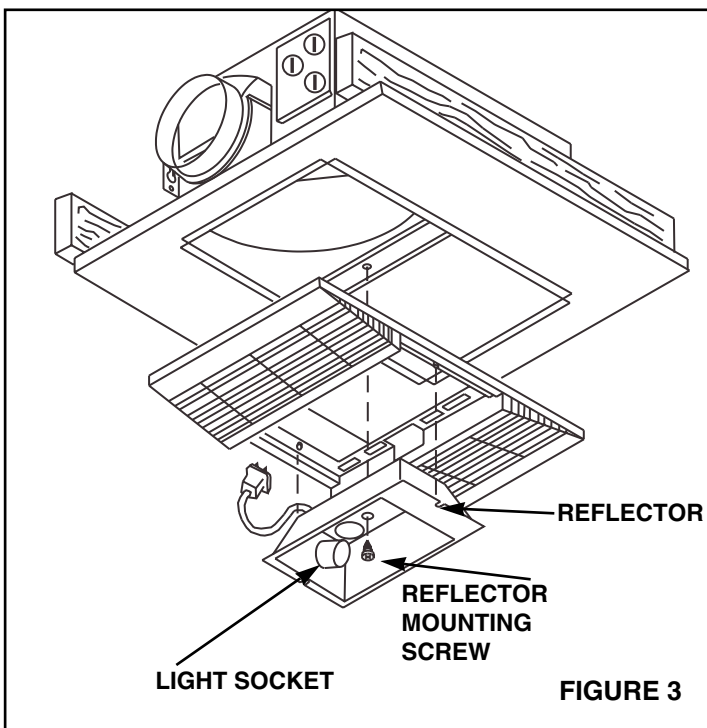

FIGURE 3
1. **Refer to Figure 3.** Place reflector in the opening in the center of the grille. The notches in the reflector should fit over the pegs on either side of the opening. Insert plug from lamp socket into white receptacle on wiring compartment.